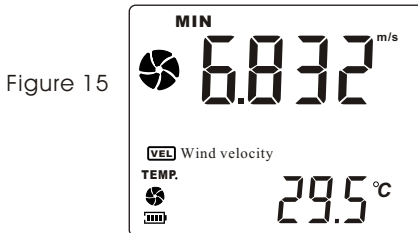

Figure 15
2. When measuring minimum value of wind velocity, a “MIN” will be shown on the upper LCD screen, as shown in figure 15: